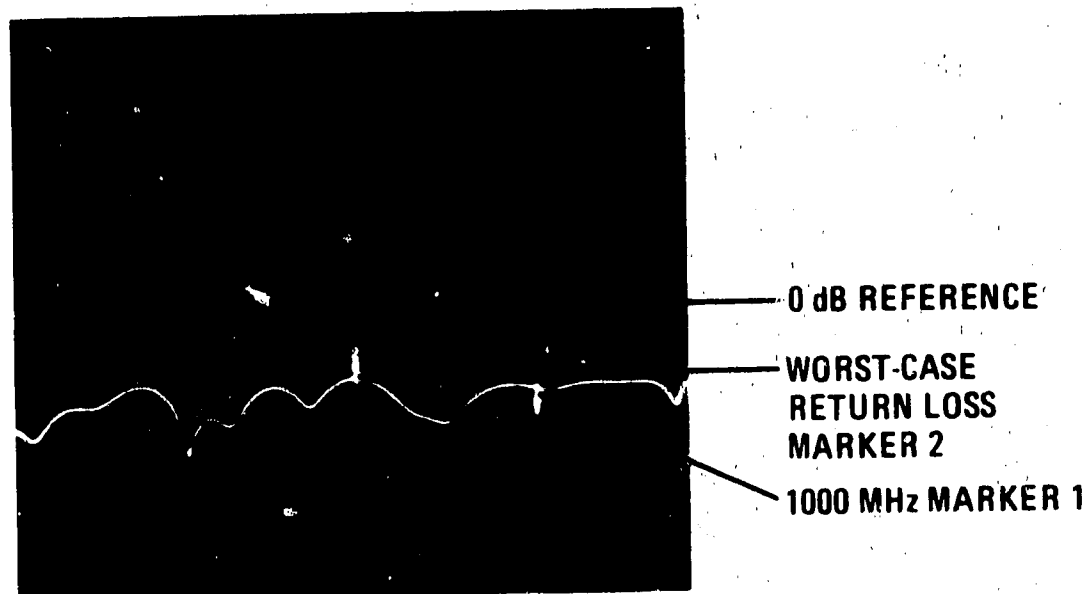

Figure 4-13. Port Return Loss (100 - 1000 MHz)
- (1) Move 8505A Frequency Control MARKER 2 control to worst-case return loss between 100 and 1000 MHz as indicated on CRT (the point closest to calibration line to left of MARKER 1 as shown in Figure 4-13).
- (2) Read worst-case return loss from 8505A Signal Processor Channel 1 digital display. The indication should be ≥ 23 dB below the zero dB reference level for the frequency range 100 to 1000 MHz.